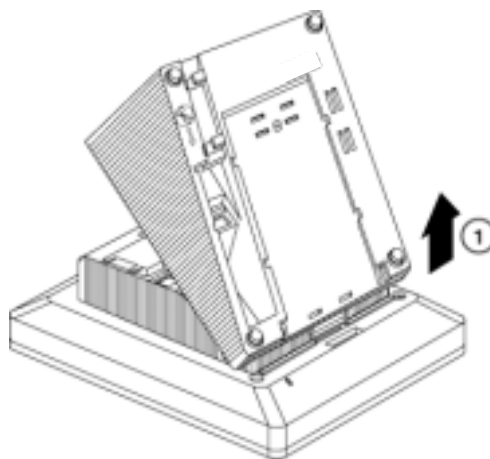

Figure 3-30. Removing the Deskstand
3. Lift the deskstand out of the locating slot in the telephone base as shown in Figure 3-30 and place to one side.